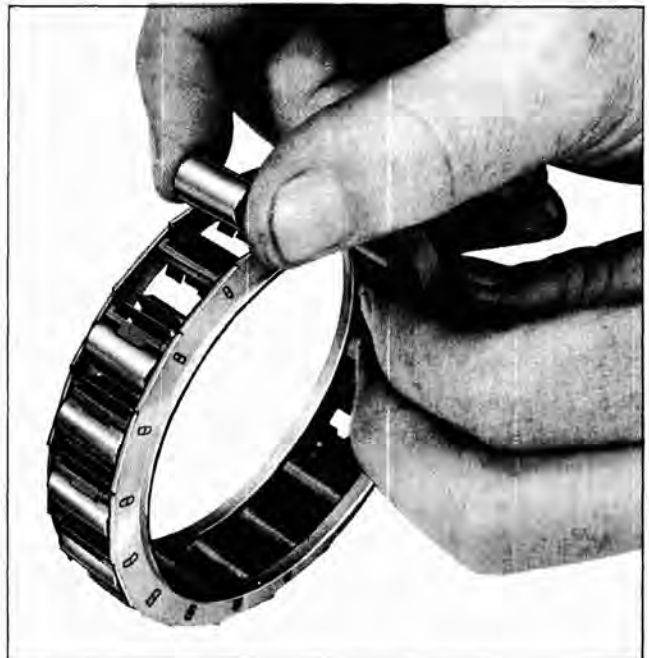

Fig. 94 Installing Rollers
2. Install the rollers into cage between the springs in such a way that the upper tab on the spring fits over the roller. (Fig. 94).